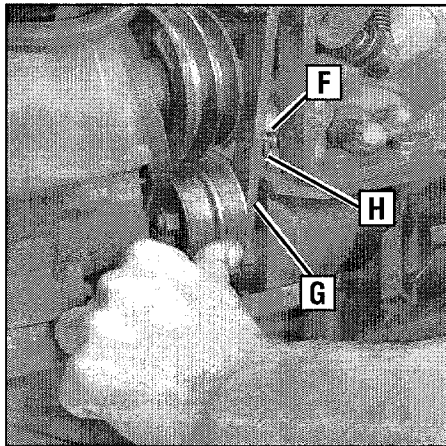

Figure 5-11: Remove clevis pin from outer hole in forward adjustable link and move to inner hole in link.
6. On the **left** side of the unit (as viewed from operator's position) remove the hairpin cotter from the clevis pin (F, Figure 5-11) that connects the forward idler arm (G) to the forward adjustable link (H). Push inward on the forward idler arm (G) and remove the clevis pin (F).
7. There are two holes in the forward adjustable link (H, Figure 5-11). Push inward on the forward idler arm (G) and install the clevis pin (F) through the **inner** hole in the forward adjustable link (H) and out through the single hole in the forward idler arm (G). Secure the clevis pin with the hairpin cotter. **NOTE:** While pushing inward on the forward idler arm, be sure that the forward drive belt is moved off to the right side of the tiller. This creates more room to install the clevis pin when the forward idler arm is pushed inward.